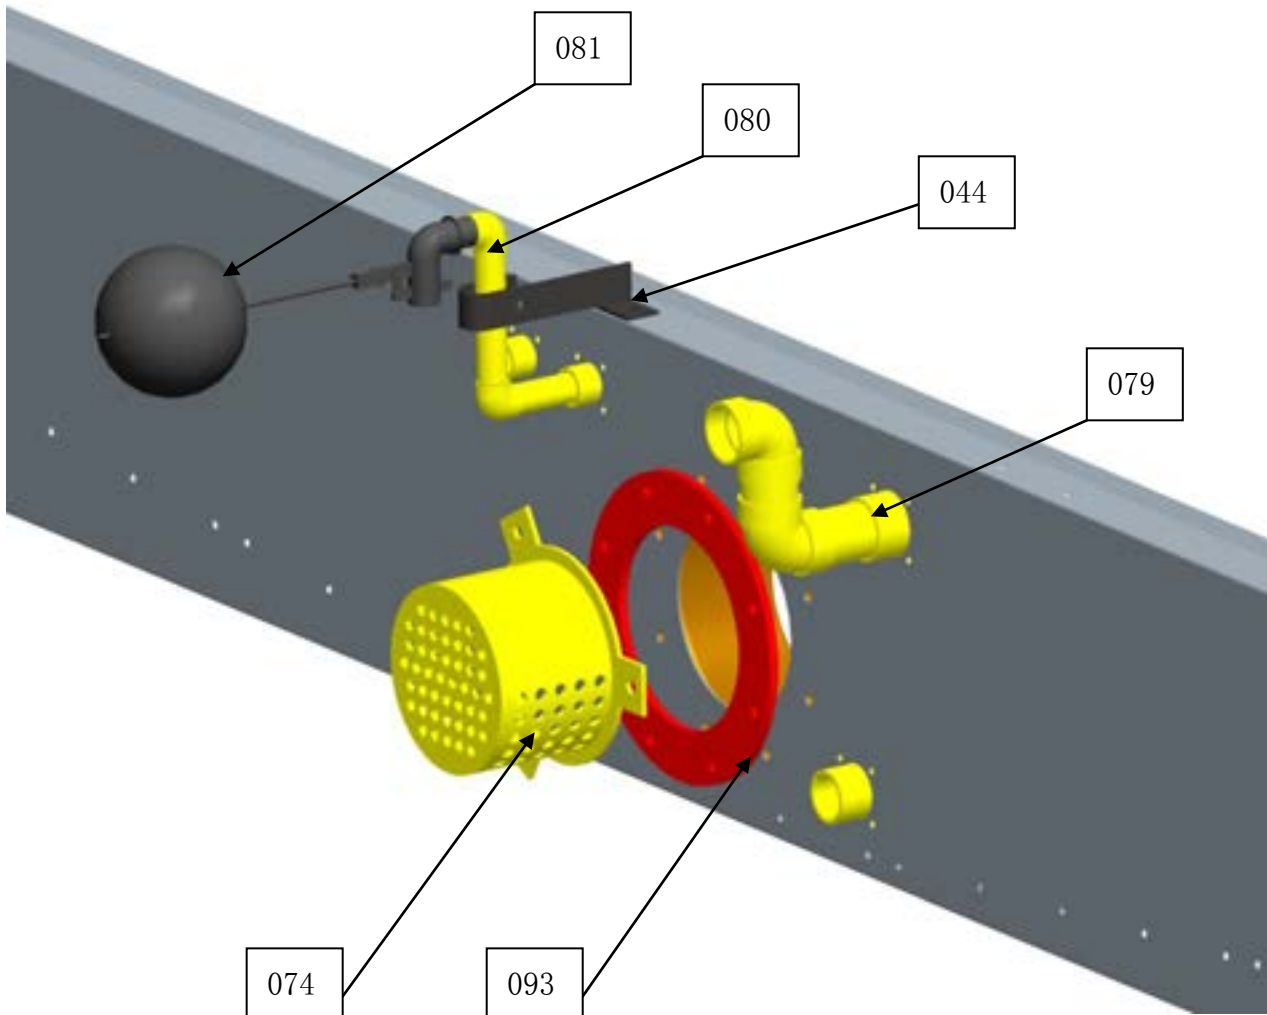

Figure 4
- 3) Rubber gasket must be put when install debris strainer. (see figure 4)